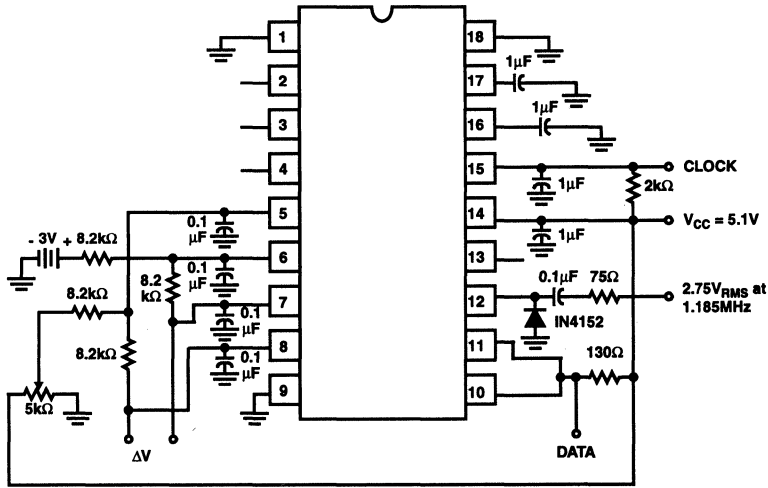

FIGURE 6. TEST CIRCUIT FOR THRESHOLD VOLTAGE MEASUREMENT
5. Adjust potentiometer for $\Delta V = 0\text{V}$ (See Figure 6). Then slowly increase ΔV in the positive direction until pulses are observed at the DATA terminal.
6. Continue increasing ΔV until the DC level at the clock terminal drops to 4V (See Figure 6).
7. Continue increasing ΔV until the ALBO terminal rises to 1V (See Figure 6).